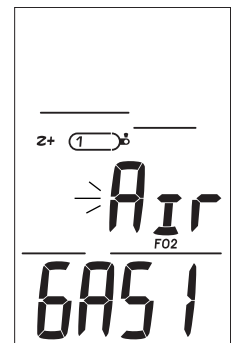

Fig. 16 - Set FO2 (Air)
**Set Gas 1**, information includes (Fig. 16, 17):
**Set Gas 2 (3 similar)**, information includes (similar to Fig. 16, 17):